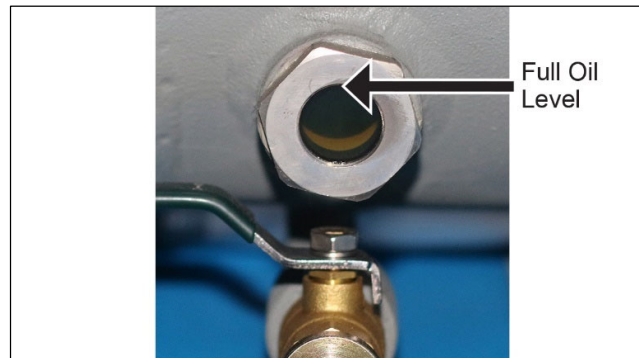

Figure 6-1 Oil Level Gauge Sight Glass
- e. Re-start the compressor and allow it to operate in loading mode until the discharge temperature reaches at least 75°C and then shut down the unit. Wait five minutes and re-check the oil level. Top-up if necessary until the oil level is at the top of the oil level gauge sight glass as shown in Figure 6-1.